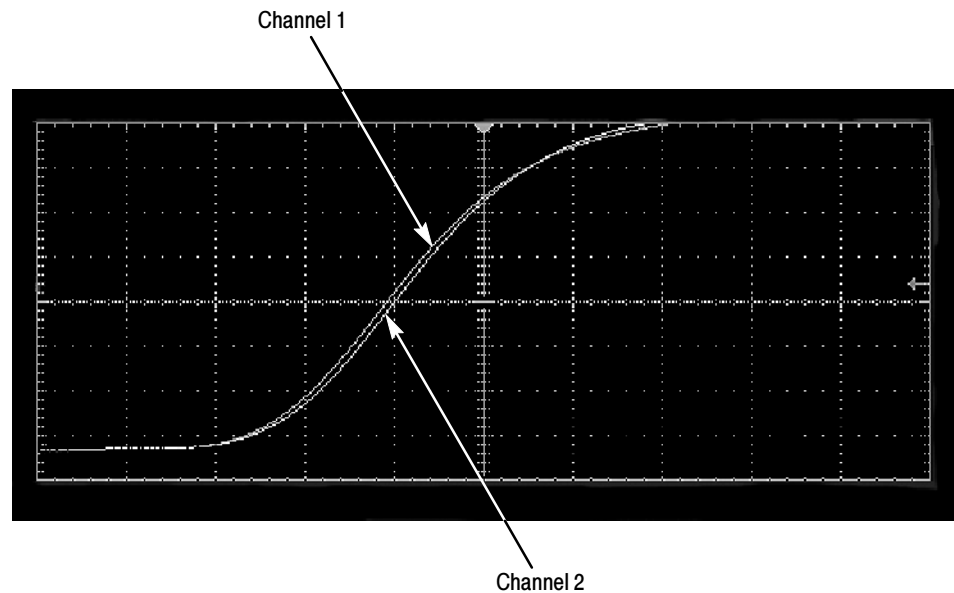

Figure 12: Centering waveforms on the screen
7. Adjust the vertical **SCALE** and **POSITION** (with active probes adjusting **offset** can be required) for each channel so that the signals overlap and are centered on screen. It's advised to make sure all channels being deskewed are at the same Volts/div setting. See Figure 12 on page 13.